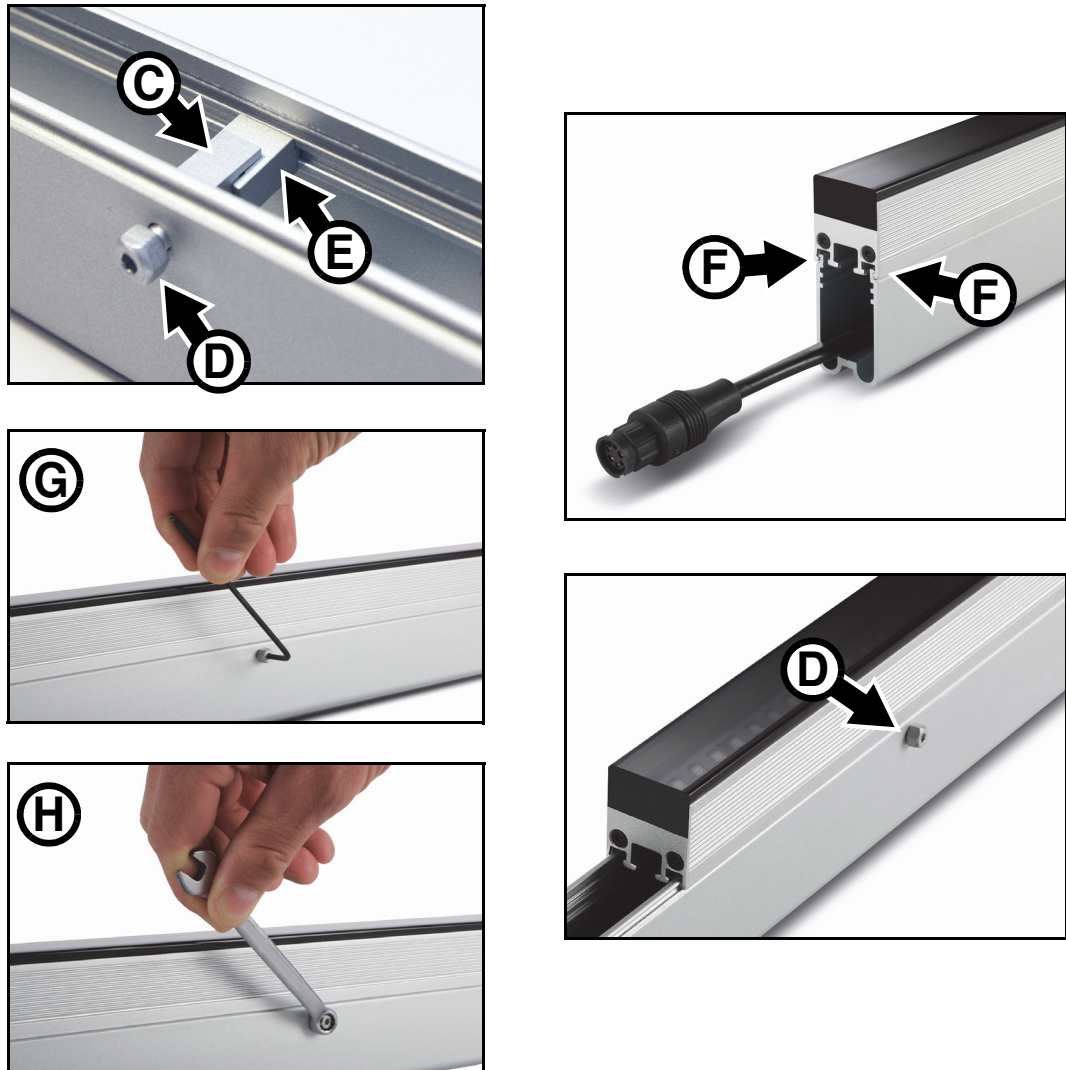

Figure 4: Mounting Profile Lock
6. See Figure 4. Prepare one mounting profile lock **C** per 310/320 mm fixture or minimum three mounting profile locks per 1270/1280 mm fixture. Apply a small quantity of Loctite 243 to the threads of the lock bolts **D**. Place each lock **C** in position so that it engages with the grooves in the profile as shown at **E** and tighten the bolt **D** finger-tight only.